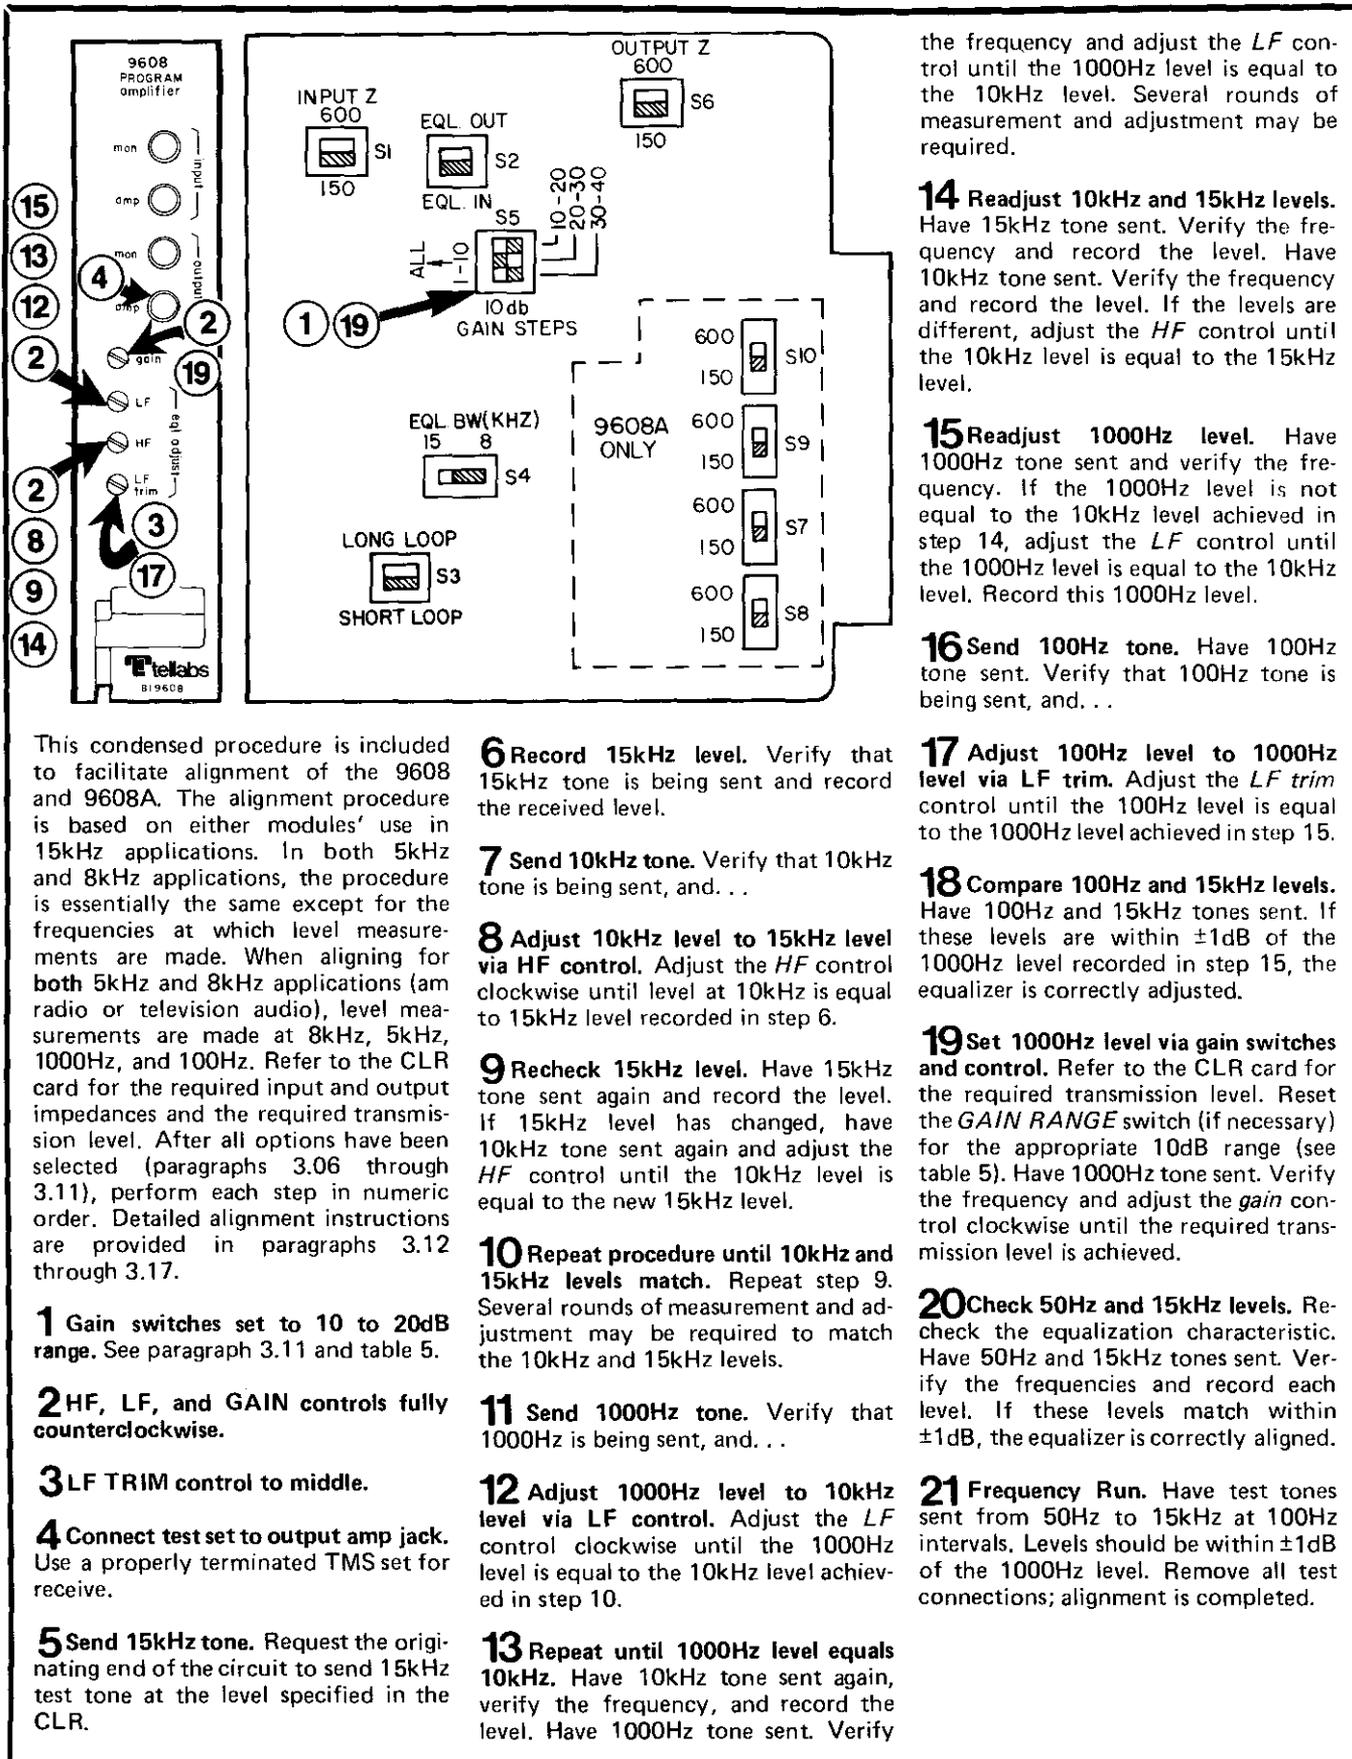

figure 2. Condensed alignment procedure
3.06 All options on the 9608 and 9608A are selected via slide or DIP switches located as shown in the condensed alignment procedure, figure 2. Please note that switches S7, S8, S9, and S10 are not provided on the 9608 module; all other switches are in the locations shown. Switch designations are indicated on the printed circuit board adjacent to each switch.
**Note:** A condensed alignment procedure (figure 2) is included to facilitate alignment of the 9608 and 9608A.